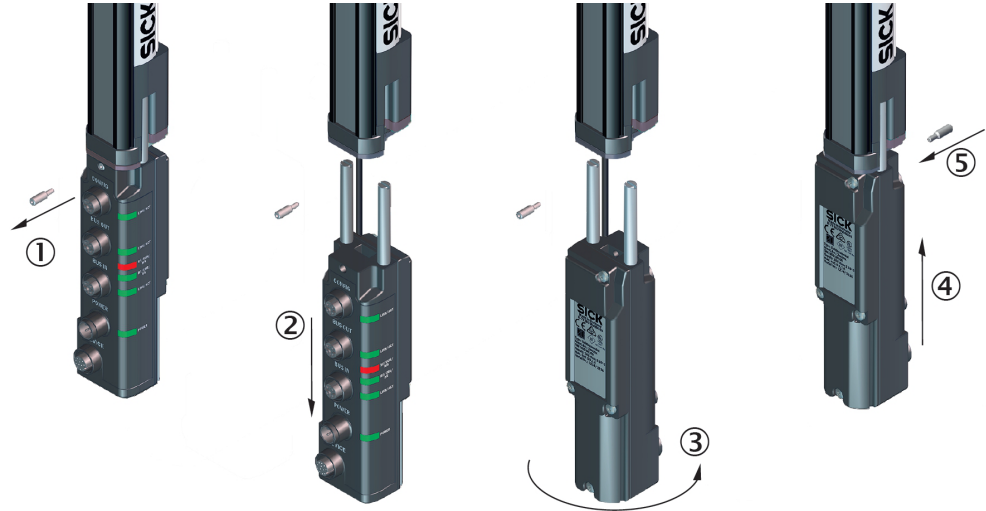

Figure 40: Turn the fieldbus module by 180°
- ▶ Disassemble the fieldbus module as described (see figure 40, page 46).